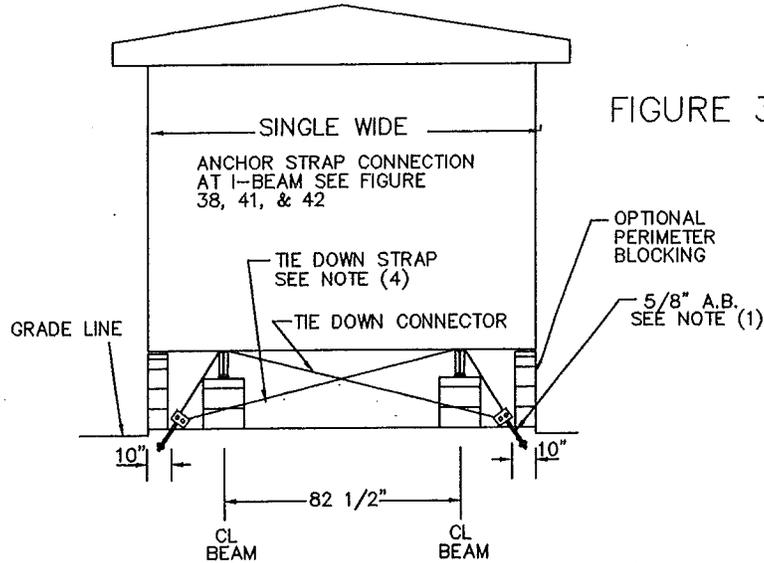

FIGURE 34
9. Ground anchors and anchor heads must be sized to resist the loads listed in the notes for Figures 34 through 37. The materials necessary to anchor your home to the ground have not been provided by this company and may be obtained through your independent manufactured home dealer.
5. The diagonal ties (frame ties) required can be determined by reference to Figures 34, 35, 36, or 37. The spacing requirements are based on your geographical area, Zone I or Zone II, as indicated on your Structural Design Basis Certificate, Design Wind Zone Map.